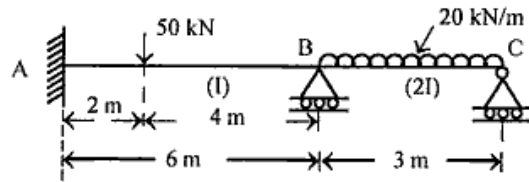

Figure 3
d) Draw the BMD and SFD using theorem of three moments for the beam as shown in figure 3.